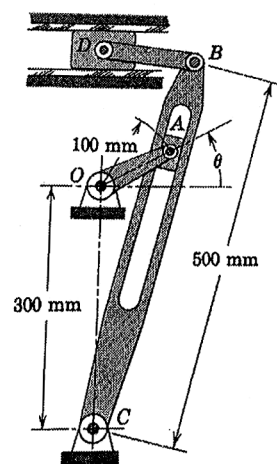

Fig Q9
9) Fig shows a quick return mechanism. If the driving crank **OA** has a constant angular velocity of **3 rad/s**, determine the velocity of point **B** for the instant  $\theta=30^\circ$ . Refer **FigQ9**